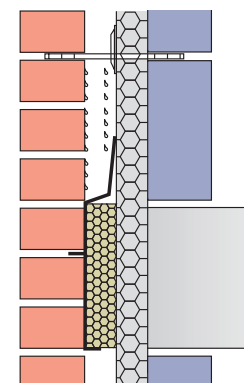

Fig.7
- Fig.7 shows the Acoustray fitted with insulation spanning only the clear cavity width. This option allows the cavity wall insulation to be installed as normal without cutting at the floor slab level and is recommended for acoustic requirements only